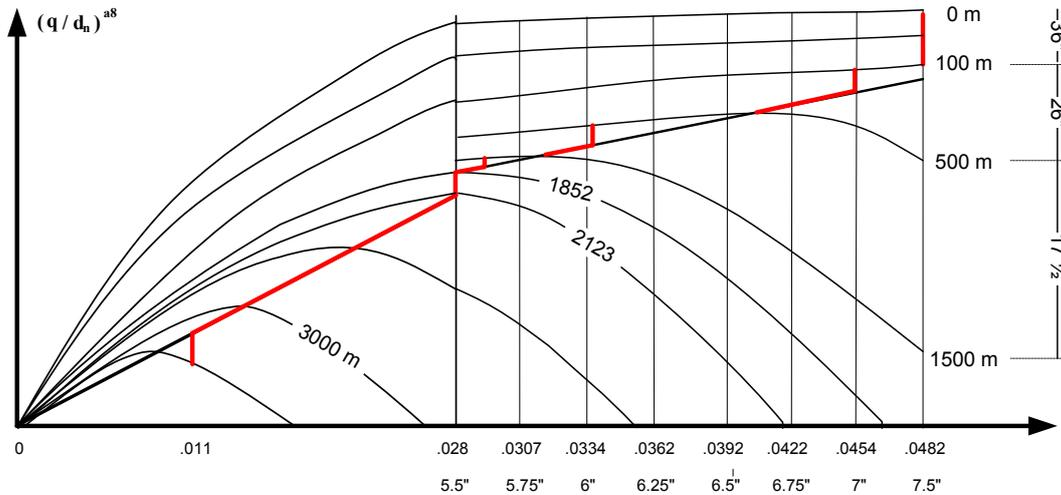

Figure 4-6: Graphical solution.
d) From Table 4-6 in the Task section we can see that between 1 500 and 3 000 m there are two potential options. However, from Figure 4-6 above we already know that at 1 852 m we are inside pump range I, and applying the 5½” liner. We also see that the maximum flow rate of the 5½” liner is the optimum one for most of its operational time. This has already been shown in task b) above.